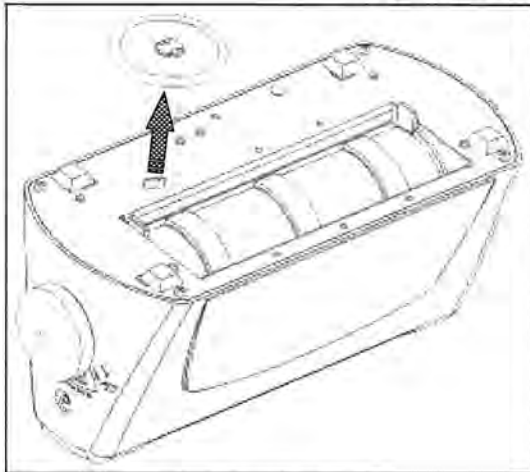

Figure 4
2. From the bottom of the folder, rotate the dejamming handle until free and remove the handle from the folder (Figure 4).